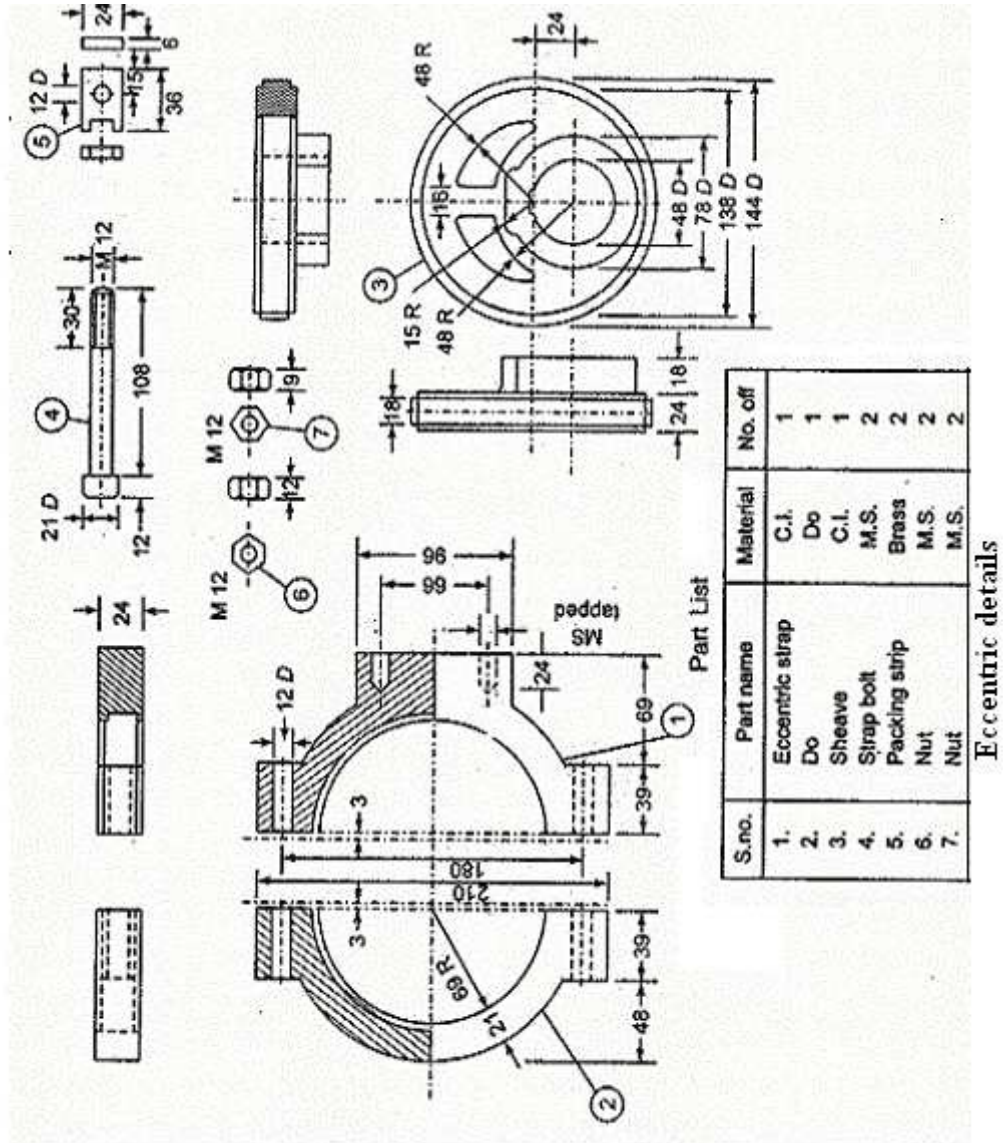

Figure 2:
2. Figure 2 shows all the parts of an eccentric. [50]